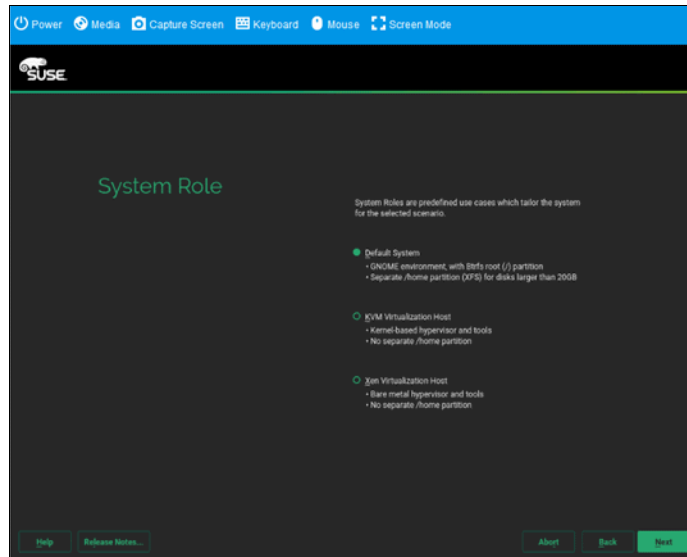

Figure 6-48 System role selection
15. Select the System Role: in this example the system role is **Default System** as shown in Figure 6-48 on page 210. Click **Next**.